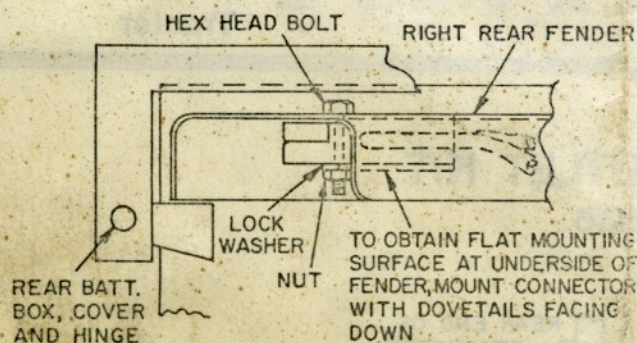

Figure 3
9. Attach the outlet to the right-hand fender as shown in Figure 3.